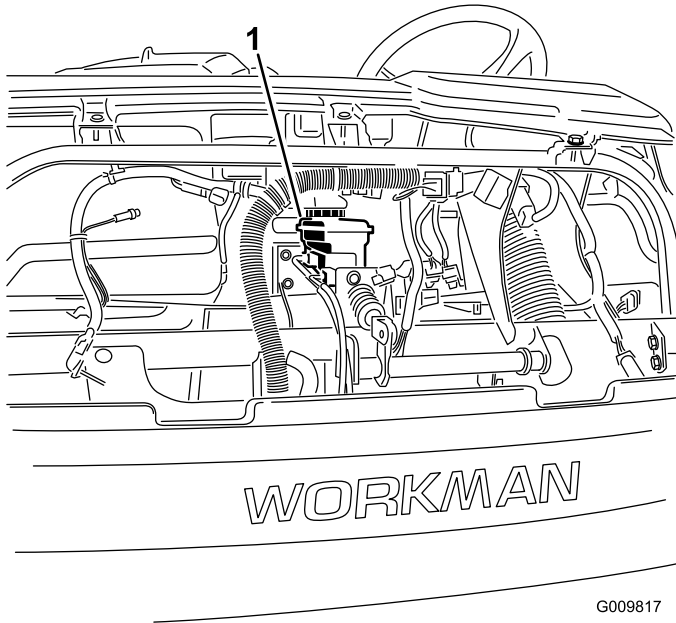

Figure 50
4. Raise the hood to access to the master brake cylinder and reservoir (Figure 50).